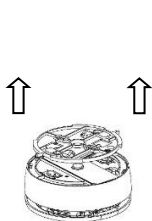

Figure 5
2. Remove the plastic mounting bracket from the detector (see Figure 5).
1. Remove the plastic mounting bracket from the detector (*see Figure 5*).